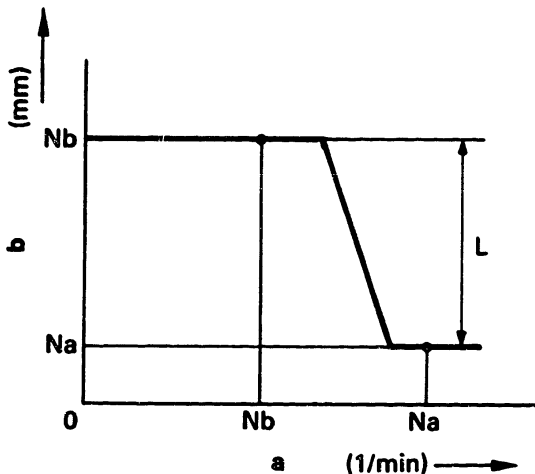

Fig. 75 RAD governor
1. The control rack position "Ra" equals control rack position "Rb" minus the travel "L". (Fig. 75)
- Next, decrease pump speed to "Nb" and, by means of stroke adjusting screw (38) adjust flyweight lift for high-speed control "L" (control rack position "Rb"). (Figs. 75, 76 and 77)